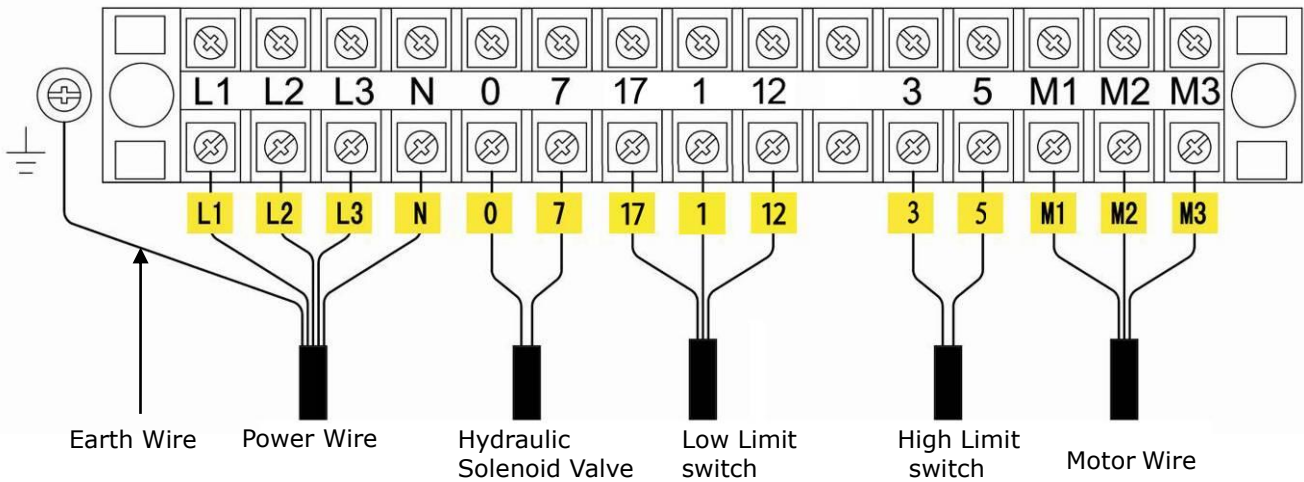

Fig. 28
2.1 Connect the power wire and limit switch wire according to the Wiring diagram (See Fig. 28).